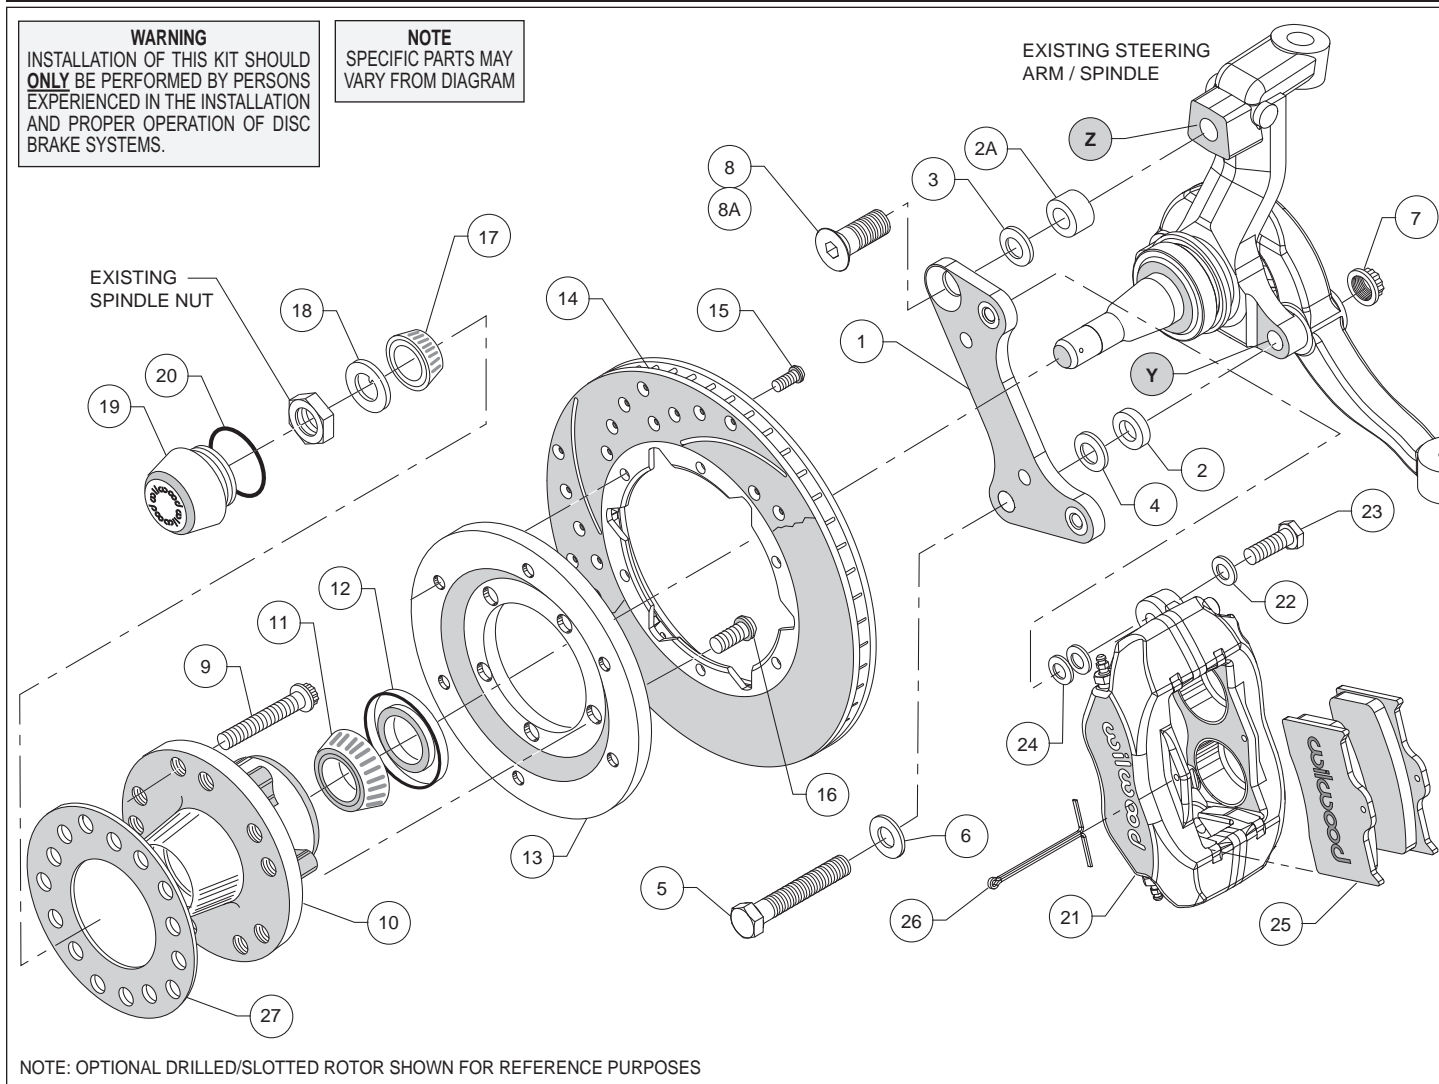
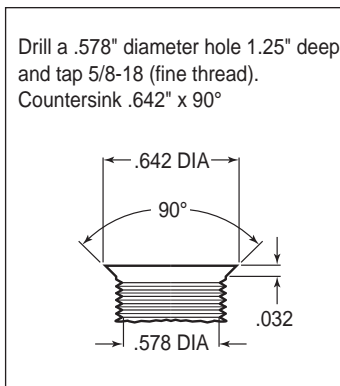

Figure 1. Typical Installation Configuration
Figure 3. Drill and Tap Detail
Assembly Instructions (numbers in parenthesis refer to the parts list and Figure 1 on the preceding page): **CAUTION:** All mounting bolts must fully engage clinch nuts. Be sure to check that all bolts are either flush or protruding through flanged side of clinch nut after shimming, Figure 4.
•**NOTE:** 1964-66 spindles may require the following modifications (reference Figure 1 and Figure 3): Top anchor pin hole (Z) must be drilled and tapped to the dimensions as outlined in Figure 3. Bottom rear steering arm bolt hole (Y) in the spindle and steering arm must be enlarged to .50" by drilling.
- Pack the large inner bearing cone (11) with high temperature disc brake bearing grease (available from your local auto parts store) and install into the backside of the hub (10), Photo 2.
- Install the grease seal (12) by pressing into the backside of the hub (10), flush with the end of the hub, Photo 2.
- Orient the rotor (14) and the rotor adapter (13) as shown in Figure 1 and Photo 3. Attach the rotor to the adapter using bolts (15). Using an alternating sequence, apply red *Loctite*® 271 to the threads, and torque to 25 ft-lb.
- Mount the adapter/rotor assembly (13/14) to the hub (10) using bolts (16), as shown in Figure 1 and Photo 4. Using an alternating sequence, apply red *Loctite*® 271 to the threads, and torque to 45 ft-lb.
- Attach caliper mounting bracket (1) to spindle face using lower bolt (5), washer (6), and a .090" thick spacer (2) positioned between the bracket and the spindle face, as shown in Figure 1 and Photo 5. Secure bolt on the backside of the steering arm with lock nut (7). Finger tighten. Install upper bolt (8) (for drum spindle) or bolt (8A) with spacer (2A) between bracket and spindle (for disc brake spindle), Photo 6. Ensure that the flanged heads of the clinch nuts in the bracket are facing outboard, Photo 6. Temporarily tighten the mounting bolts and install the new hub/rotor assembly (10/14). Check that the bracket is aligned parallel to the rotor, Photo 7. If not, adjust by adding shim washers (3 and/or 4) between spacers (2 and/or 2A) and the bracket, Figure 1. Once the bracket alignment is correct, remove the upper bolt (8 or 8A), apply red *Loctite*® 271 to bolt threads, and torque to 120 ft-lb. Torque lock nut (7) to 65 ft-lb.
- Pack the small outer bearing cone (17) with high temperature disc brake bearing grease and install into hub (10). Slide the hub/rotor assembly onto the spindle. Secure using spindle washer (18) and OEM spindle nut, Photo 8. Adjust bearings per OEM specifications. Install saved OEM nut lock (if any) and a new cotter pin (not included).
- Screw dust cap (19) into hub (10). Friction created by the o-ring on the dust cap keeps it from unscrewing. **NOTE:** The O.D. of the existing OEM spindle washer may be larger than the I.D. of the dust cap not allowing it to seat against the hub face. Therefore, use the spindle washer (18) supplied with the kit instead of the OEM washer.
- NOTE:** Please reference the caution statement at the beginning of the assembly instructions. Mount the caliper (21) onto the caliper mounting bracket (1) using bolts (23) and washers (22), as shown in Figure 1. Initially place two .032" thick shims (24) on each bolt between the caliper and the bracket, Photo 9. Temporarily tighten the mounting bolts and view the rotor (14) through the top opening of the caliper. The rotor should be centered in the caliper, Photo 10. If not, adjust by adding or subtracting shims between the bracket and the caliper. Always use the same amount of shims